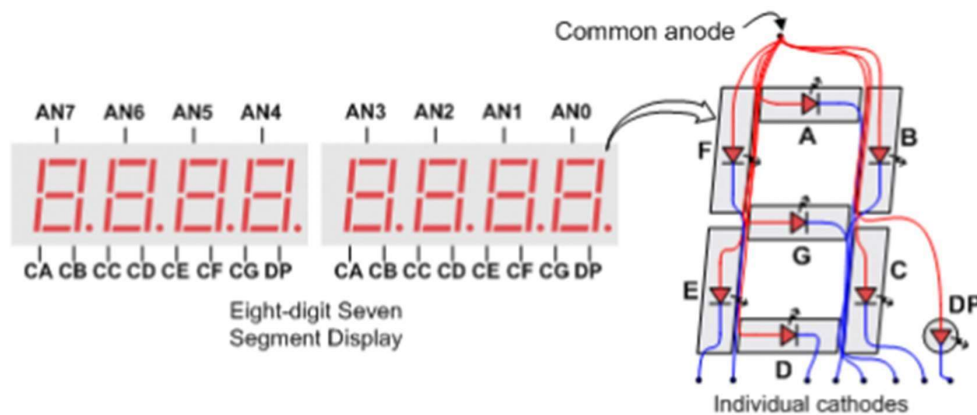
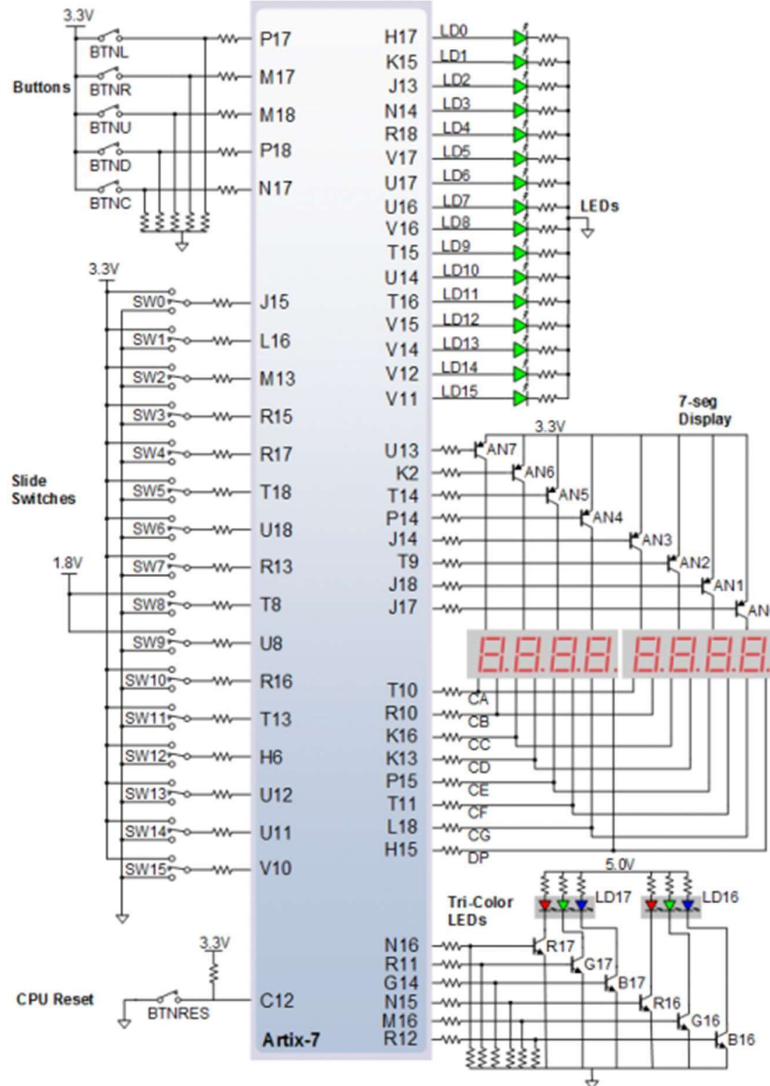

Figure 1 Common anode circuit node (reproduced from the Nexys A7 reference manual)
Figure 2 General purpose I/O devices on the Nexys A7 (reproduced from the Nexys A7 reference manual)
As shown in Figure 1, The Nexys A7 board contains two four-digit common anode seven-segment LED displays, configured to behave like a single eight-digit display. All 7 segments of a digit have a common anode and each segment has individual cathode; however, as shown in Figure 2, all 4 digits share the same cathode pins. So a trick is needed to display 4 different numbers on the 4-digit seven-segment LED display. The idea is to repeatedly activate one digit at a time in a rotational pattern. So we would activate digit1, then digit2, then digit3, then digit4, then digit1 again, and so on. This of course would make each digit flicker quickly, but if it is refreshed quick enough (at a rate between 60 Hz, and 1 KHz), the human eye will not be able to notice that flickering.
- The inputs of the module to switches 0 to 12 according to Figure 2
- The outputs of the module to the cathodes and anodes of the 7-segment LEDs according to Figure 2